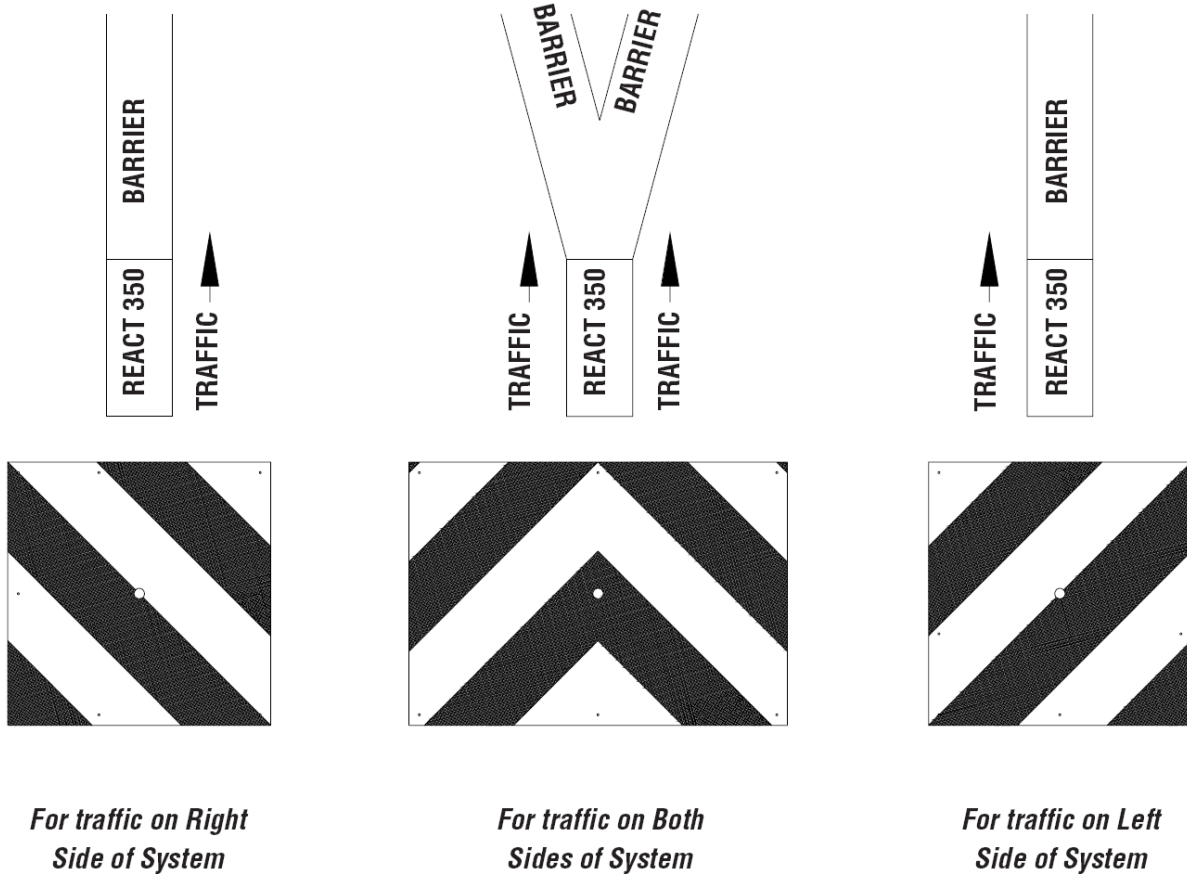

Figure 22
4. Screw 1/4" self-tapping screw into Cylinder punching through reflective tape and the existing holes in nose cover until head of fastener is flush for all 12 places (p. 24, Figure 22).